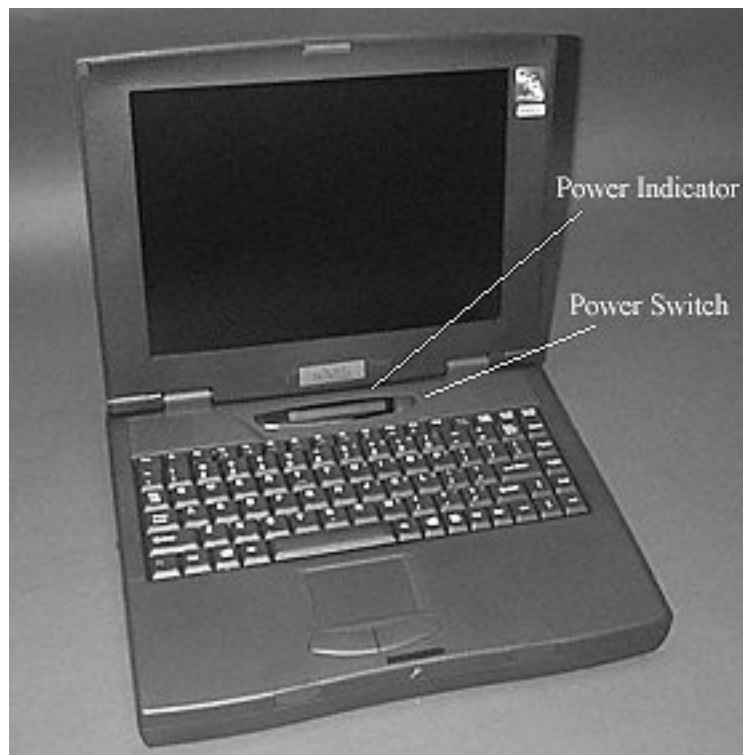

Figure 8 Power Switch and Indicator
- Press and hold the **Power Switch** until the **Power Indicator** light illuminates as shown in Figure 8.